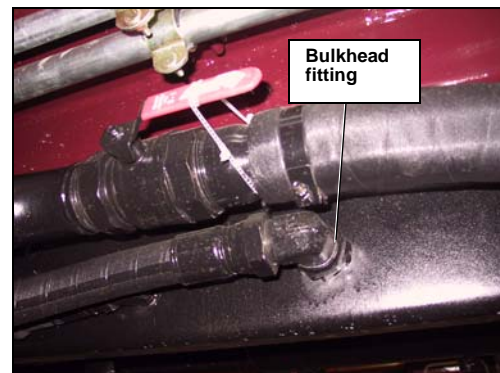
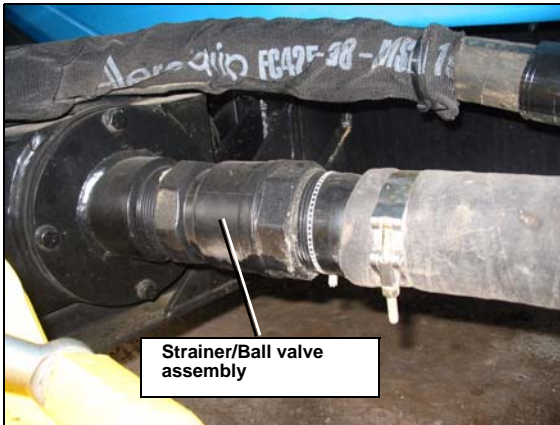
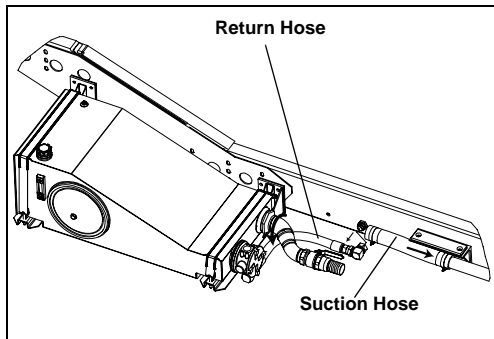

Figure 111. Bulkhead fitting
Figure 112. Strainer/Ball Valve Assembly
Figure 113. Strainer removal
10. Disconnect the bulkhead of the return hose to allow the ball valve assembly to turn freely when the strainer is loosened (see Figure 111. "Bulkhead fitting" and Figure 113. "Strainer removal").
11. Remove the strainer from the tank port (see Figure 112. "Strainer/Ball Valve Assembly" and Figure 113. "Strainer removal"). The strainer has to be turned counterclockwise to be removed.